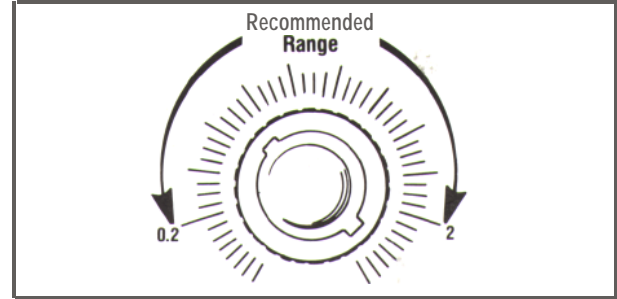

Fig. 3. COARSE Frequency Control.
1. The COARSE frequency control adjusts from approximately two-tenths to two times the indicated range value. For example, if the 10 K range is selected and the COARSE frequency control is set to the most counterclockwise major line, the output frequency is approximately 2 kHz. When the COARSE frequency control is set to the most clockwise major line, the output frequency is approximately 20 kHz. Fig. 3 shows these major lines.
Keep the (starting) COARSE frequency control between the 0.2 and 2 positions (see Fig. 3).